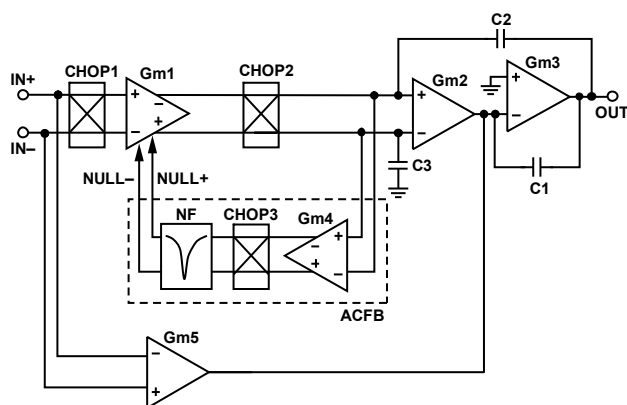
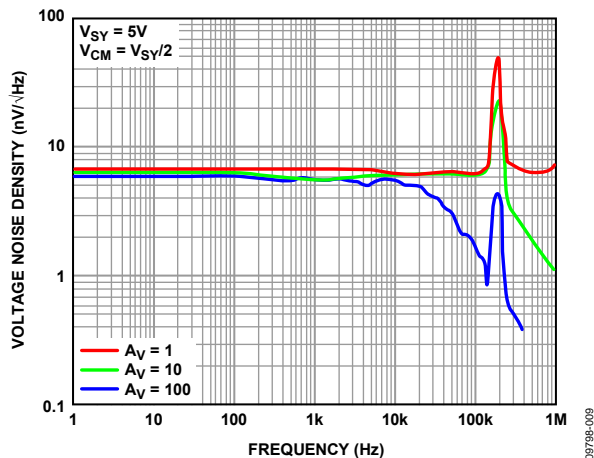

Figure 1. Amplifier Block Diagram
Figure 8. Voltage Noise Density vs. Frequency at Different Closed-Loop Gains
Figure 1 shows the ADA4528-1 amplifier block diagram. It consists of a high dc gain path with autocorrection feedback (ACFB) in parallel with a high frequency feedforward path. The high dc gain path consists of an input chopping switch network (CHOP1), a first transconductance amplifier (Gm1), an output chopping switch network (CHOP2), and second and third transconductance amplifiers (Gm2 and Gm3). The ACFB loop contains a fourth transconductance amplifier (Gm4), a chopping switch network (CHOP3), and a switched capacitor notch filter (NF). Finally, the high frequency feedforward path is made up of a fifth transconductance amplifier (Gm5). The chopping frequency,  $f_{\text{CHOP}}$ , of all chopping switch networks is designed to operate at 200 kHz.
This analysis is valid for a flatband noise calculation. If the bandwidth of concern includes the chopping frequency, more complicated calculations must be made to include the effect of the noise spectrum at the chopping frequency (see Figure 8).
First, the voltage ripple is part of the residual ripple associated with the initial offset  $G_{m1}$  (see Figure 1). This ripple creates higher noise spectrums at the chopping frequency (200 kHz) and its harmonics. Figure 8 shows the voltage noise density of the ADA4528-1 vs. frequency in three different gain configurations. The amplifier in the unity gain configuration has a noise spectrum of 50 nV/√Hz at 200 kHz. This noise spectrum is significant when the op amp has a closed-loop bandwidth that is greater than the chopping frequency. However, with a higher gain, the noise spectrum becomes less significant due to the natural gain roll-off characteristic of the amplifier. Therefore, the ADA4528-1 is excellent for use in dc high gain configuration with its ultralow noise, offset voltage, and drift capability.